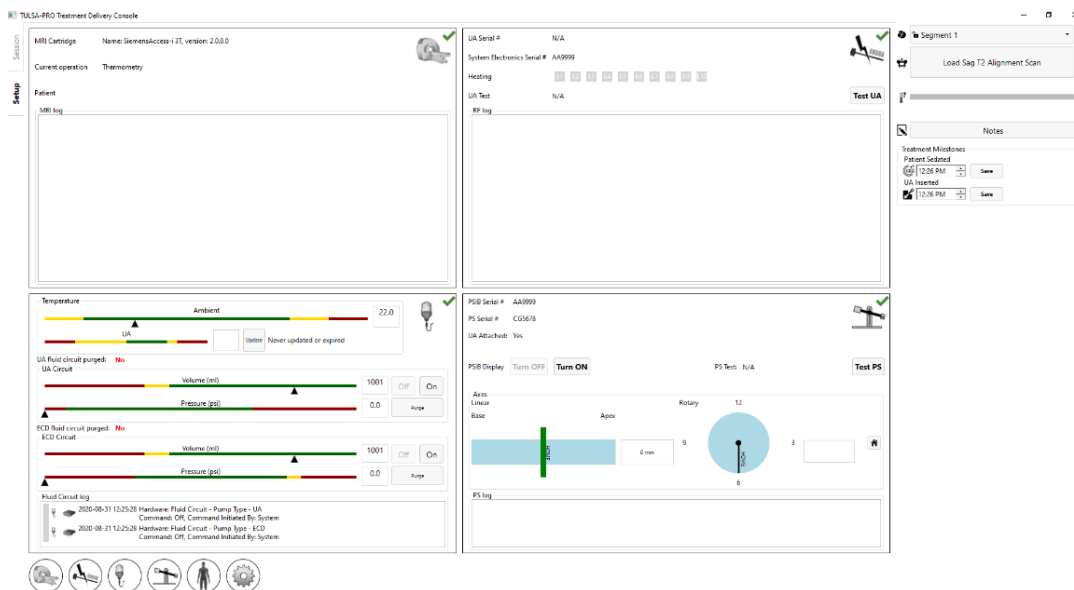

Figure 6: Setup workspace of the TDC software
2. After selecting **New Session**, you will enter the **Setup** Workspace (Figure 6) where you can ensure all equipment is functioning properly before proceeding. A green checkmark will appear in the MRI quadrant of the Setup Workspace if the TDC computer and MRI host can communicate with each other, and a patient is currently open with the TULSA-PRO® MRI sequence protocol on the MRI console.